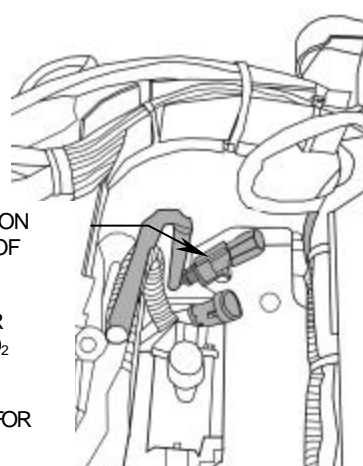

FIGURE 6
7. The rear O₂ connector is under the oil tank on the right side of the bike. We recommend that you temporarily remove the battery to gain access to this connector, but you may attempt to install the O₂ eliminator from underneath, see Figure 6. If leaving the O₂ sensor in place zip tie its harness to the starter wire harness to prevent it from melting on the case.